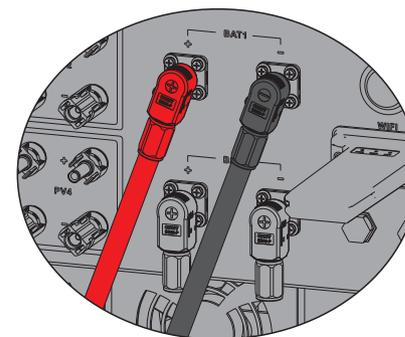

Figure 4.2-6 The battery terminal is connected to the inverter
**Step 4.** Connect the battery terminal to the inverter. Ensure that the battery polarity is connected correctly, as shown in Figure 4.2-6.